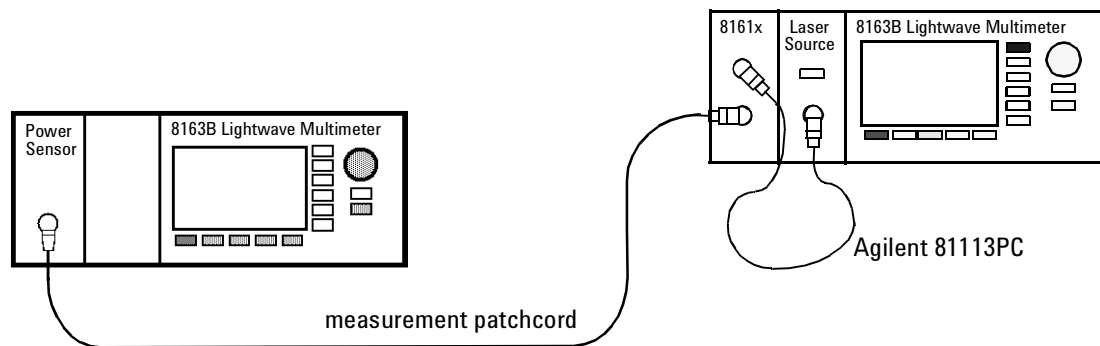

Figure 102 Power Transmitted through the Measurement Patchcord - External Source
- 1** Making sure all the connectors are clean, set up the instrument as shown in Figure 102 if you are using an External Source,